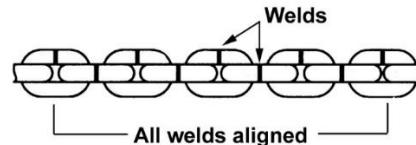
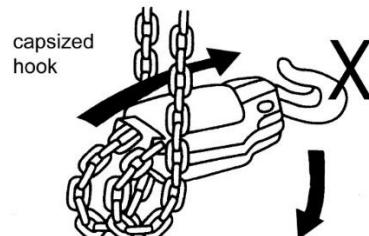

Figure 11-1
Figure 11-2
Check that chain does not twist along its length from hoist to hook (Figure 11-1). If twist is present on units with multiple falls, the hook has been capsized; it must be passed back through the chain loop to remove all twist in the chain. See Figure 11-2.
6. Check that chain is not twisted at bottom hook. All welds should face same direction (see *Figure 11-1*). For hoists with two or more falls of chain, make sure bottom hook is not capsized. This may cause the chain to twist.